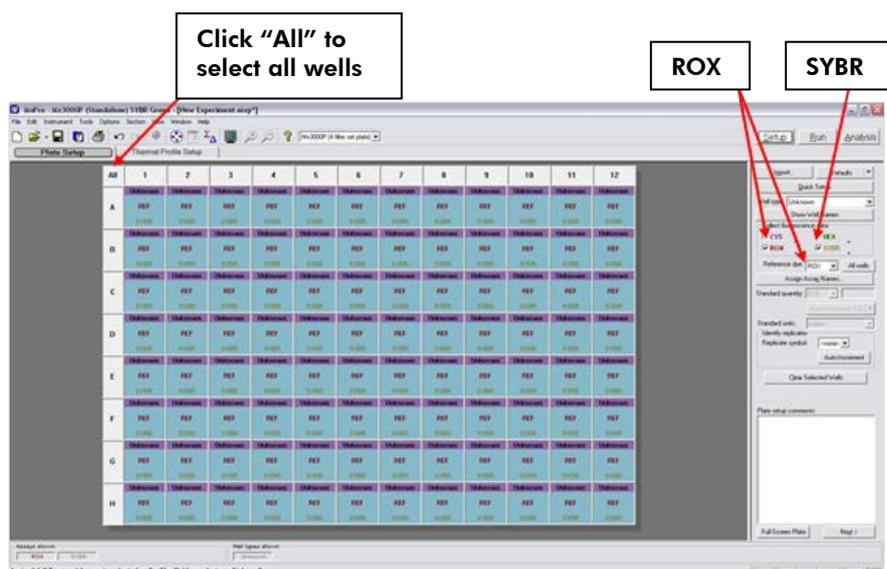

Figure 1. Plate setup.
4. On the Plate Setup tab (See Figure 1), click the square button with the word “All” on the top left corner of the diagram of the 96-well plate to select all wells. The selected wells will be highlighted in green.